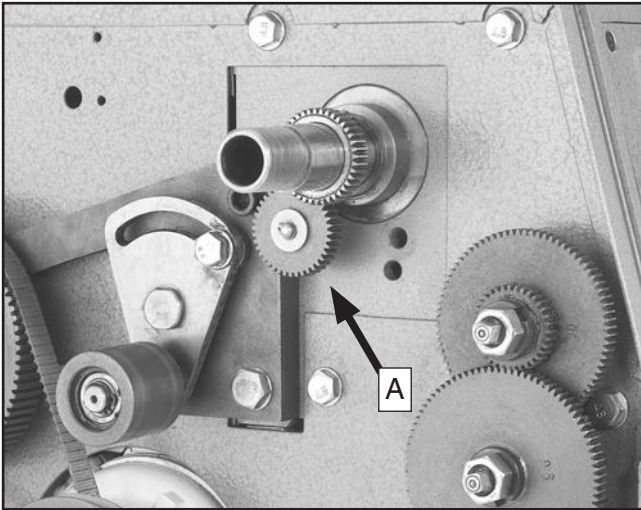

Figure 45. Extra fixed-shaft gear mounted in position "A."
3. Thread the extra fixed-shaft gear into mounting location "A" as shown in **Figure 45**.